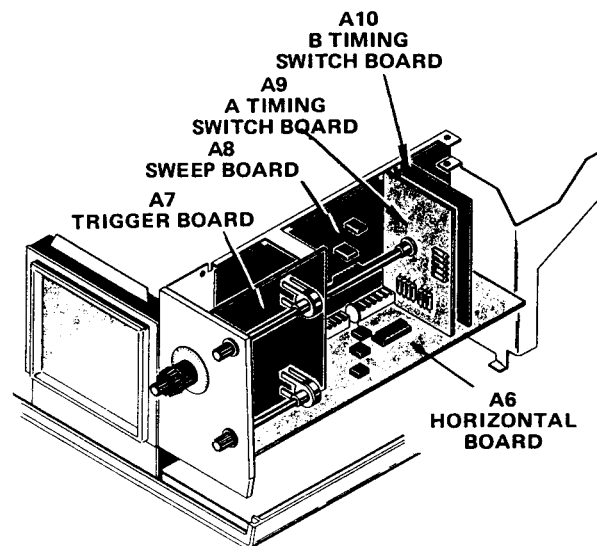

Figure 5-10. Horizontal module board locator.
(11) Remove the two screws and two nuts holding the power supply chassis divider. Loosen the small screw in the front lower right corner of this chassis (there is a heat sink on the other side). Carefully remove the chassis.
(12) Remove the rear panel and disconnect the wires and cables to the Interface Board.
(13) Remove the remaining screws holding the Interface Board to the cabinet bottom.
(14) Reinstall the board in reverse order. Be sure to properly install the heat sink when replacing the divider chassis in step (11).
**j. A and B Timing Switch Board Assembly Removal and Replacement (Figure 5-10).**
(1) Remove the horizontal module.
(2) Remove the VAR (1 hex screw) and the TIME/DIV knobs by loosening their set screws with a 1/16 inch hex wrench.
(3) Remove the two screws and hex nuts holding the switch board assembly.
(4) Remove the TIME/DIV knob skirt by loosening its set screw with a 5/64 inch hex wrench.
**k. A AND B Timing Switch Disassembly (Figures 5-10 and 5-11).**
(1) Remove the VAR shaft by loosening its set screw at the VAR potentiometer coupling with a 0.050 inch hex wrench.
(2) Remove the four screws holding the switch and boards together. Separate the boards, being careful that the switch doesn't fall out. Also, do not lose the two plastic nut retainers.
(3) Clean the switch contact pads with a soft eraser (pencil type).
(4) Clean the boards with isopropyl alcohol.
(5) Reassemble the switch as follows:
**I. Trigger Board Removal and Replacement (Figure 5-10).**
- (1) Remove the horizontal module.
- (2) Unplug the three multiconductor connectors.
- (3) Unsolder the B Trigger external input and its ground at the rear of the BNC connector.
- (4) Remove one screw at top rear of board.
- (5) Carefully pull the bottom of the board toward the right until it just unplugs. Then pull the board out away from the module.
(6) Replace the board in reverse order.
**n. Horizontal Board Removal and Replacement (Figure 5-10).**
(2) Remove the Trigger Board.
(3) Remove both screws holding the A and B Timing Switch Board Assembly. Unplug the assembly and move it far enough toward the top of the module to uncover the Horizontal Board plugs to the Sweep Board.
(4) Remove the horizontal POSITION and A TRIGGER HOLDOFF shaft knobs (see h. above).
(5) Remove the two screws holding the board (left rear corner and right front corner).
(6) Unsolder the A Trigger external input at the BNC connector and remove the board.
(7) Replace the board in reverse order.
**o. Sweep Board Removal and Replacement (Figure 5-10).**